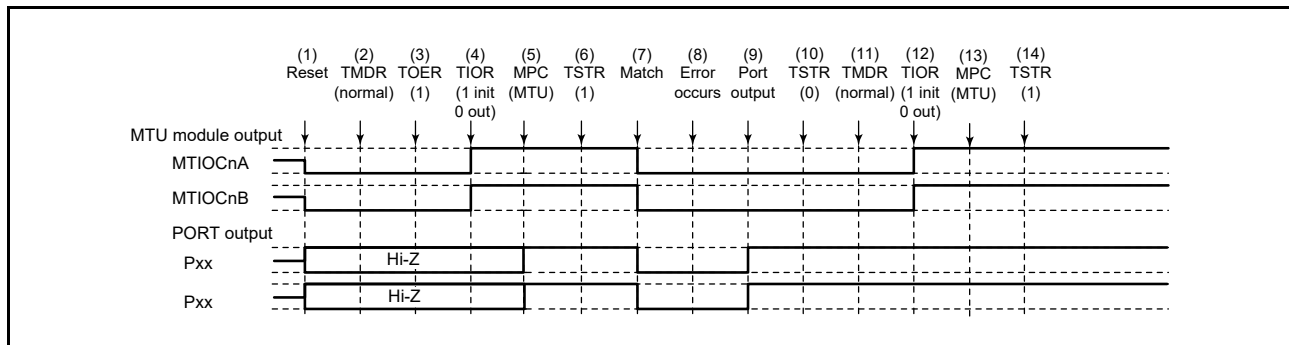

**Figure 19.143 Error Occurrence in Normal Mode, Recovery in Normal Mode**
Figure 19.143 shows a case in which an error occurs in normal mode and operation is restarted in normal mode after re-setting.
(1) to (10) are the same as in Figure 19.143.
(11) Set PWM mode 1.
(12) Initialize the pins with the TIOR register. (In PWM mode 1, waveforms are not output to the MTIOCnB (MTIOCnD) pins. To output a specified level, make necessary settings for general output ports in the port direction registers (PDR) and port output data registers (PODR) of the I/O ports.)
(13) Set MTU output using the MPC and port mode registers (PMR) corresponding to the I/O ports.
(14) Restart operation by setting the TSTR register.
(11) Set PWM mode 2.
(12) Initialize the pins with the TIOR register. (In PWM mode 2, a waveform is not output to the pin that corresponds to the TGR register used as a period register. To output a specified level, make necessary settings for general output ports in the port direction registers (PDR) and port output data registers (PODR) of the I/O ports.)
(11) Set the phase counting mode.
(12) Initialize the pins with the TIOR register.
(11) Initialize the normal mode waveform generation block with the TIOR register.
(12) Disable operation of the normal mode waveform generation block with the TIOR register.
(13) Disable output in MTU3 and MTU4 with the TOERA register.
(14) Select the complementary PWM output level and enable or disable cyclic output with registers TOCR1A and TOCR2A.
(15) Set complementary PWM mode.
(16) Enable output in MTU3 and MTU4 with the TOERA register.
(17) Set MTU output using the MPC and port mode registers (PMR) corresponding to the I/O ports.
(18) Restart operation by setting the TSTR register.